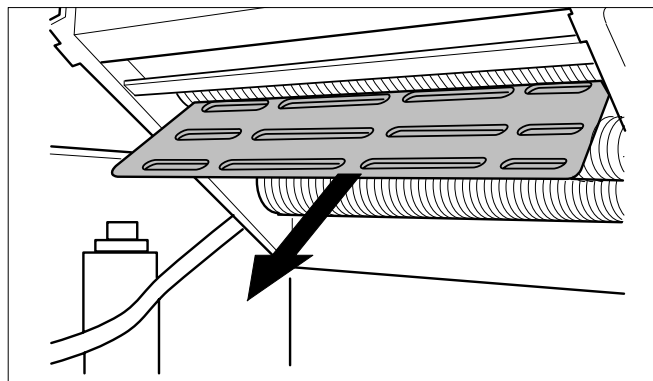

Fig. 40 Baffle plate
- Remove the baffle plate and clean it using compressed air (fig. 40).